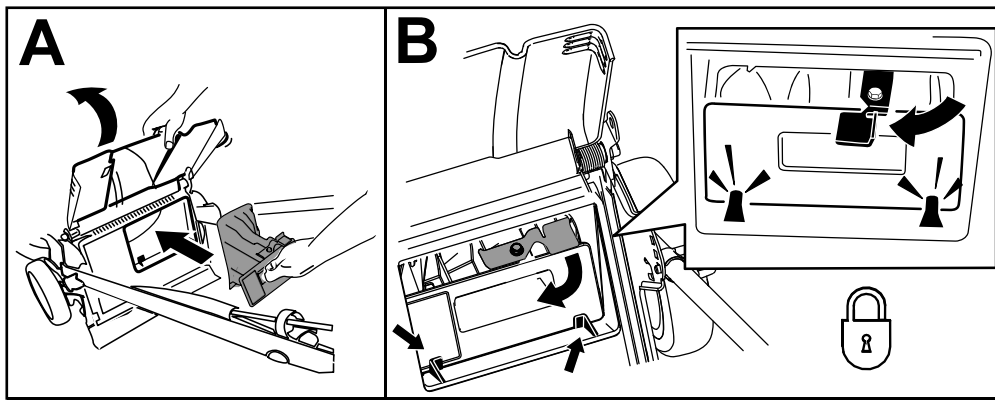

Figure 18
**Important:** Ensure that the rear plug is locked in place. To lock the plug, raise the rear deflector (Figure 18), firmly push the plug in until it snaps into place behind the tabs, and rotate the lever on the plug to the left (Figure 18).